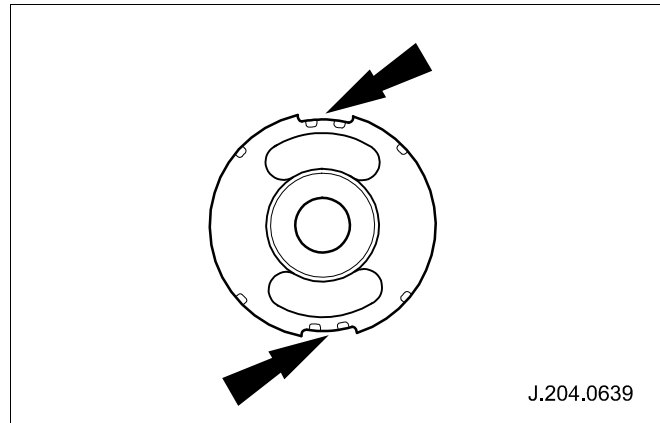

Fig. 2
**Note:** The new rear suspension beam front bushings must be fitted with cutouts to face front and rear of vehicle and the solid webs in the bushing should go across the vehicle. (See Fig. 2)